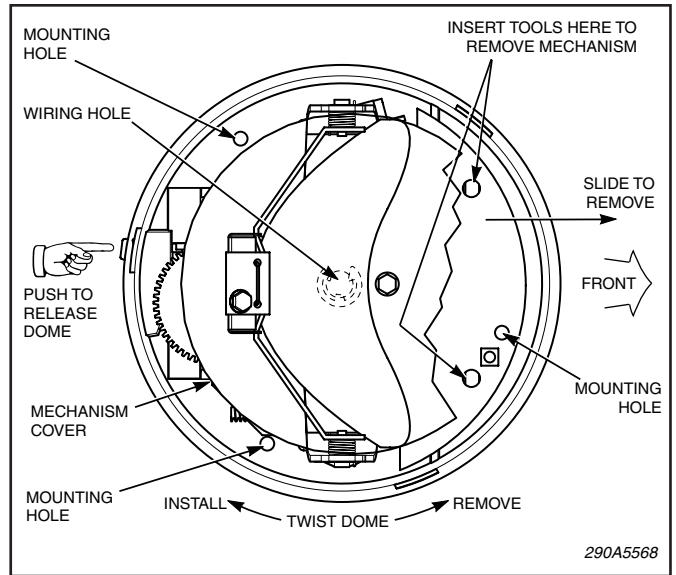

Figure 1.
2. Push and hold the dome release button (located in the plastic base). Turn the dome counterclockwise and lift the dome off the base (see figure 1).
4. Use the base of the light as a template and scribe three mounting hole drill position marks on the mounting surface. Also, scribe one wire routing hole drill position mark at the center. See figure 1 for a diagram.
2. See figure 1. Push and hold the dome release button (located in the plastic base). Turn the dome counterclockwise and lift the dome off the base.